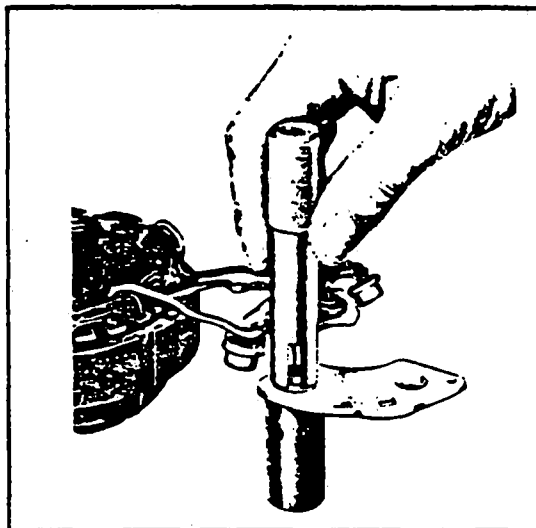

Figure 11-29. Installation of Rectifier
b. Carefully install the rectifiers in the slip ring end head or rectifier mounting plate by supporting the unit and using the special tools illustrated in Figure 11-29.